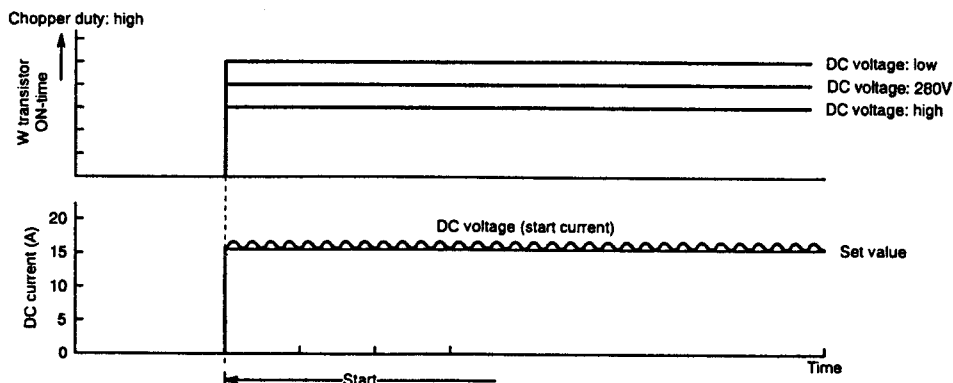

Fig. 8-10
- (2) Varies the turn-ON time of the W⁺ transistor according to the DC voltage level and the start is controlled so the start current is approx. 15A as shown in Fig. 8-10.